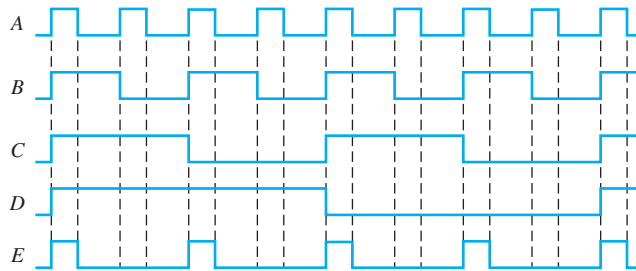

FIGURE 3-82
14. For the waveforms given in Figure 3-82, A and B are ANDed with output F , D and E are ANDed with output G , and C , F , and G are ORed. Draw the net output waveform.